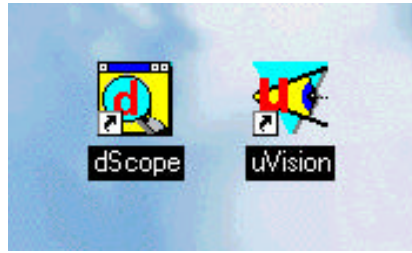

FIGURE 1
After you install the Keil development tools to Windows 3.11, a Keil program group or icons appears on your desktop. (the Windows 95 version is shown in Figure 1). Recall dScope is the Keil Simulator and μ Vision is the Keil Windows based user interface (or IDE = Integrated Development Environment).
- 4) The 120 Ω resistor (R1 in Figure 1) or the ground lead at SW1-8 do not need to be connected for this demonstration to work. Using the ground is a good idea.